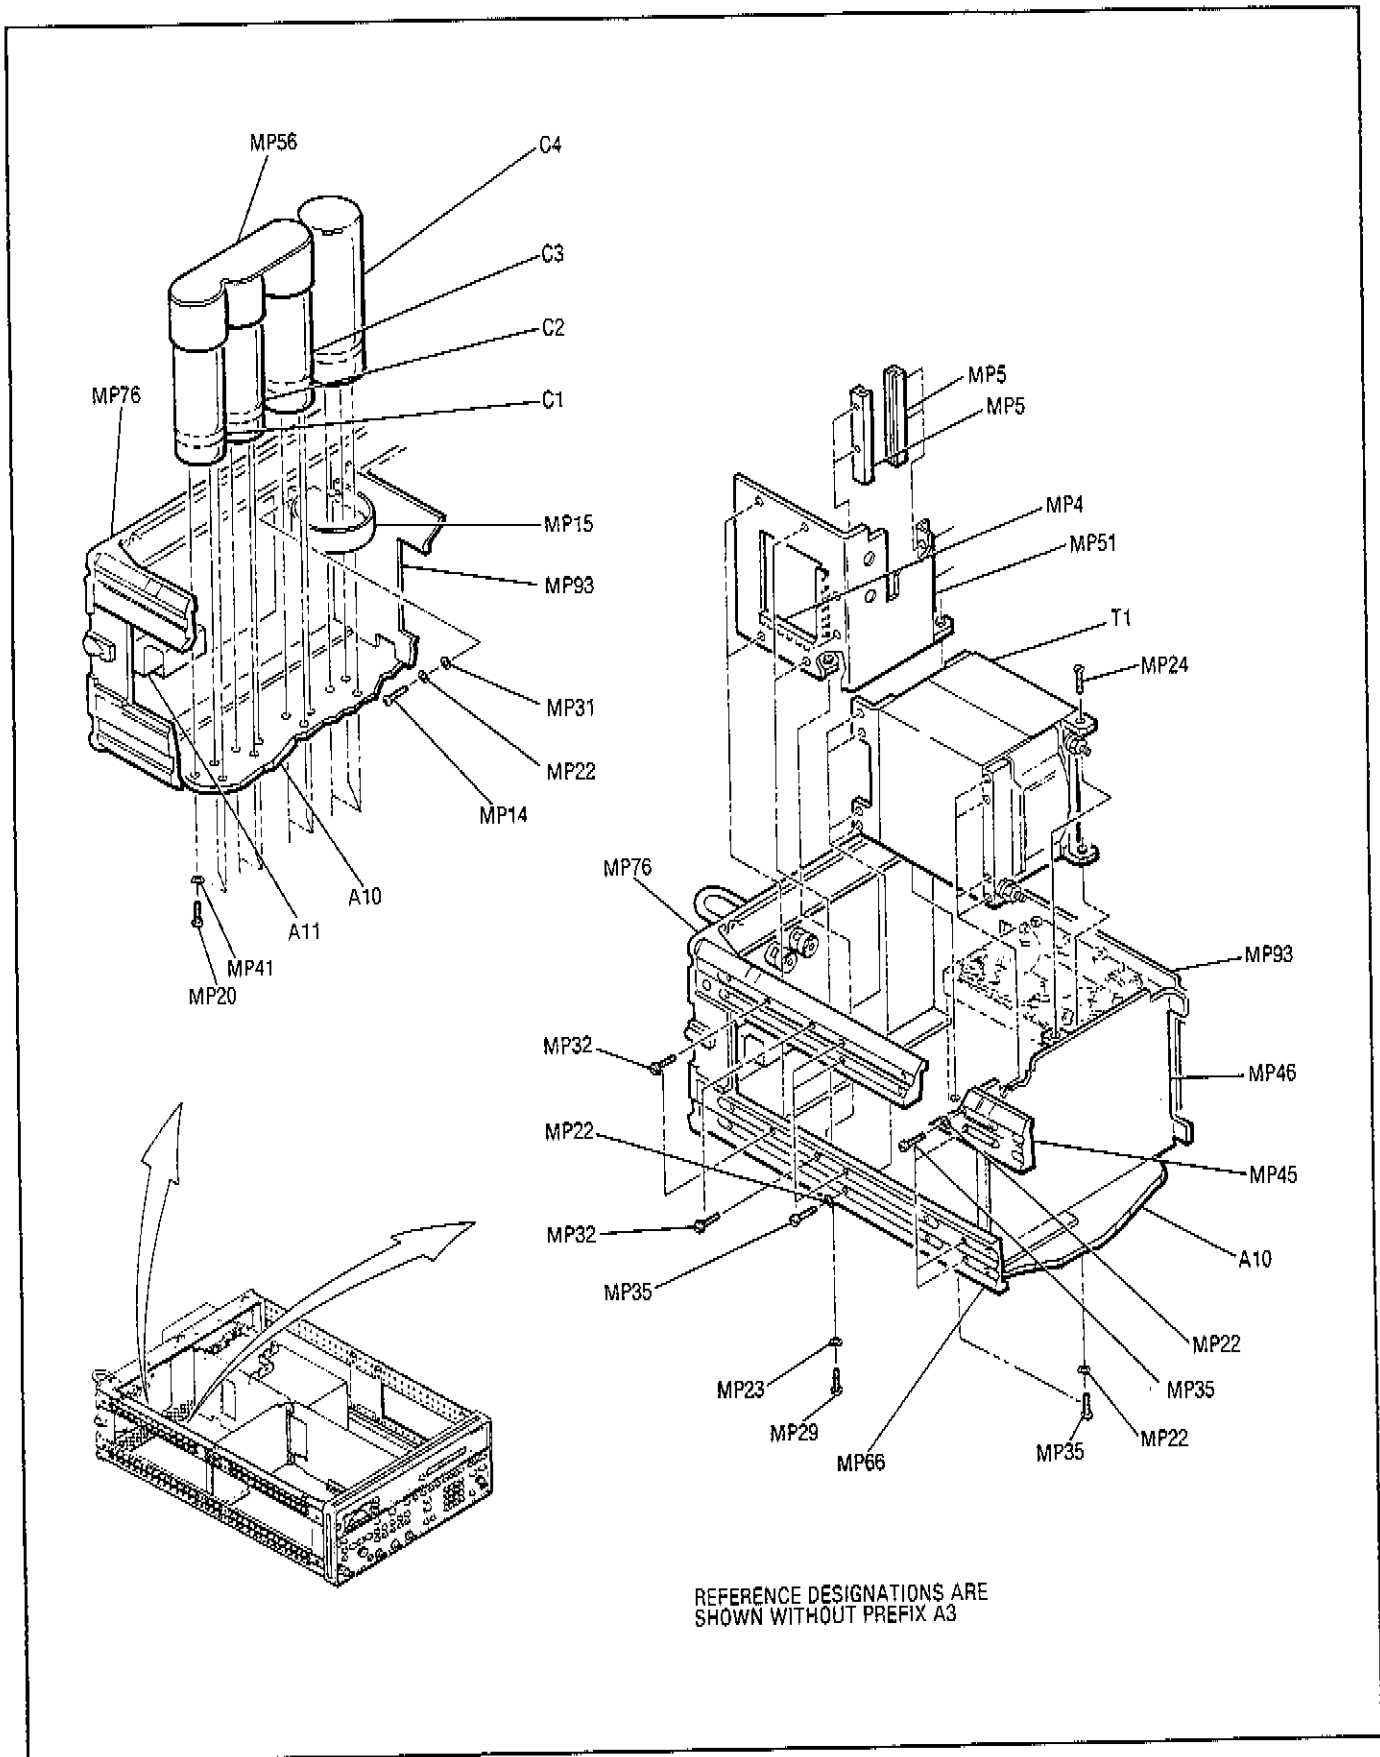

Figure 8-303. A3 Transformer and Filter Capacitor Remover
- h. Refer to Figure 8-303 for the following steps.
- d. Refer to Figure 8-303 for the following steps.